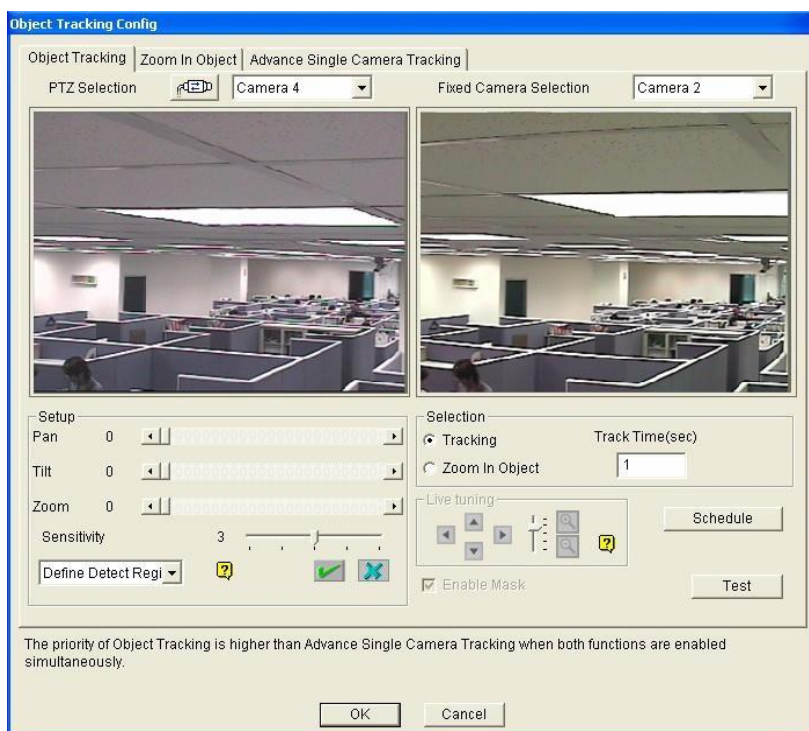

Figure 3-2
2. Choose the corresponding camera views of the PTZ and stationary cameras. In Figure 3-2, the images of the PTZ camera show in the Camera 2 view, while the images of the stationary camera show in the Camera 1 view.